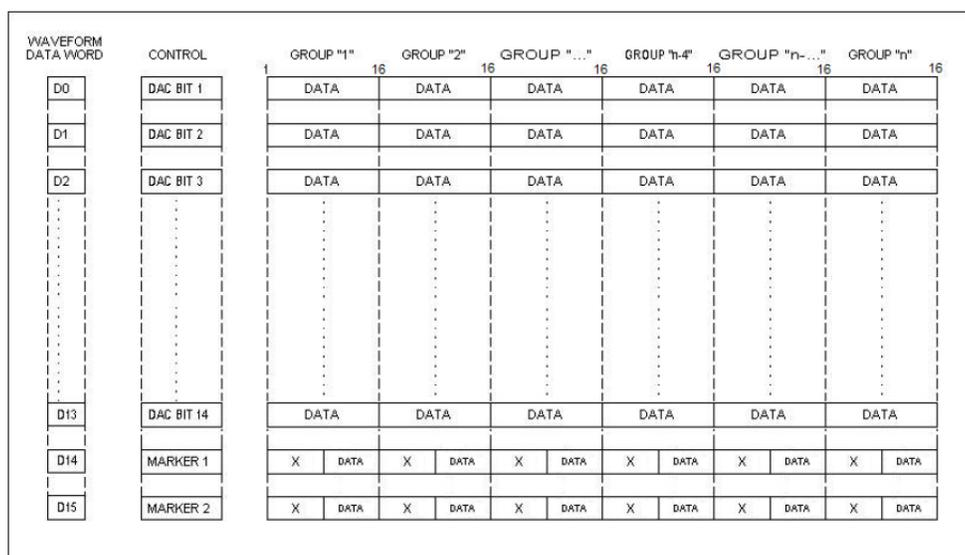

Figure 3: Waveform Data Word Representation.
- IX. Each data point consists of two bytes, which are 16 bit, but has only a 14 bit value. Markers data is saved in the unused D14 & D15 bits as can be seen in figure 3 below. Marker data is written only to CH2 and CH4. In CH1 and CH3, D14 and D15 are “don’t care”. More information in this manner can be found in the specific Tabor model’s user manual.